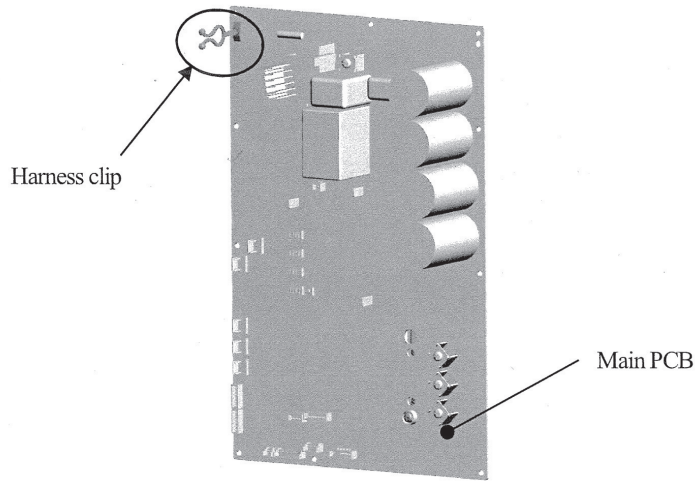

Fig.6 Install of the harness clip
- c) Install the attached harness clip on the new main PCB as shown in Fig.6.